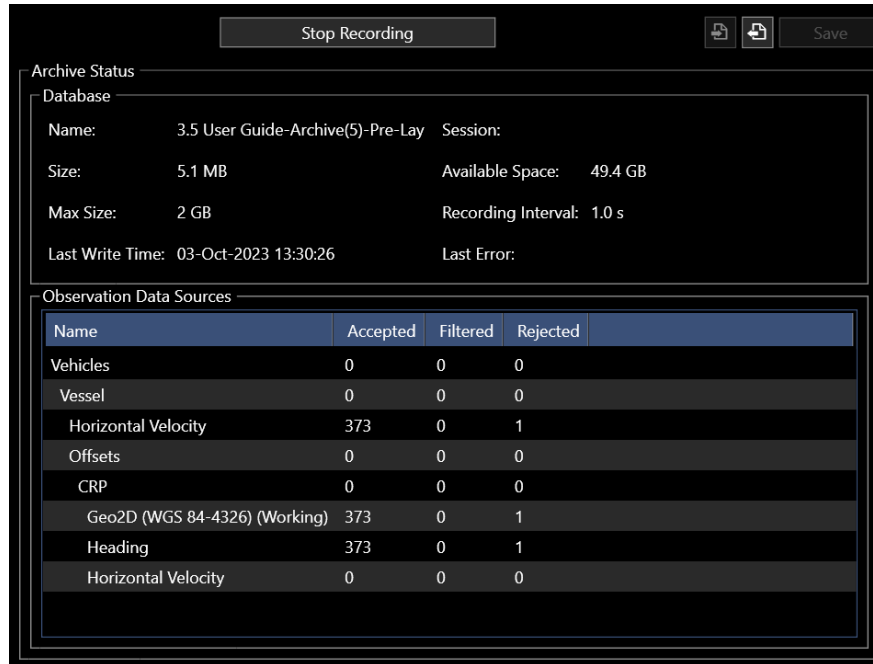

FIGURE 14-70 DATA RECORDING – ARCHIVE STATUS - EXPLORER
3. Data recording starts and the view changes to a data recording monitoring view (see Figure 14-70)